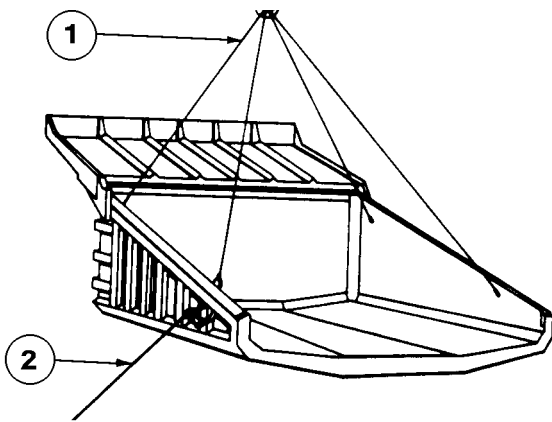

FIGURE 3-1. DUMP BODY REMOVAL
1. Park truck on a hard, level surface and block all the wheels. Attach cables and a lifting device to the dump body and take up the slack as shown in Figure 3-1.
1. Park the truck on a hard, level surface and block all the wheels. Attach cables and a lifting device to the dump body and take up the slack as shown in Figure 3-1. Lower the body over the truck frame and align the body ears with the frame pivot bores.